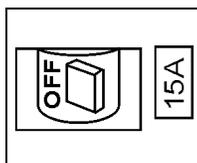

**Figure 15. 120V/GFCI Receptacle**
- Read the voltmeter on the front panel of the generator (Figure 15) and verify that 120 VAC is present at the GFCI duplex receptacle. For additional verification of voltage, an external voltmeter can be used to measure the output voltage as shown in Figure 15.